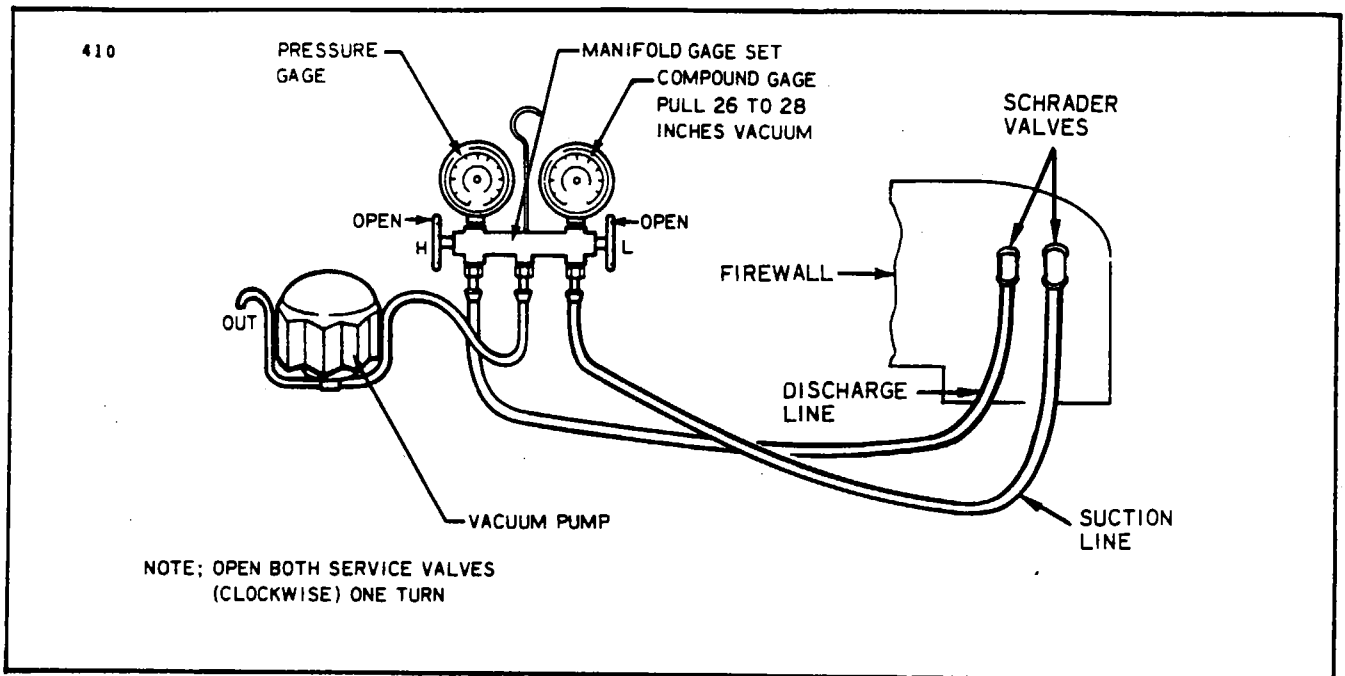

Figure 14-31. Evacuation Hookup
- b. Connect the manifold gauge set to the Schrader valves on the firewall. (Refer to Figure 14-31.)